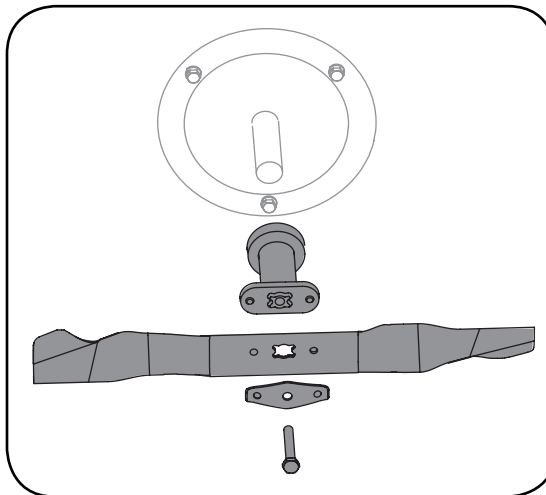

Figure 5-3
2. Remove bolt, blade bell support, blade, and blade adapter from the engine crankshaft. See Figure 5-3.